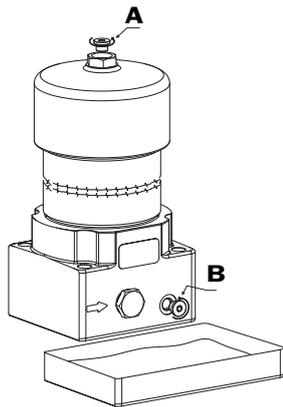

Fig. 1
- 2** Unscrew the air vent plug (pos. A) and open the oil drain connection (pos. B), collect the fluid in a suitable container (see fig. 1).